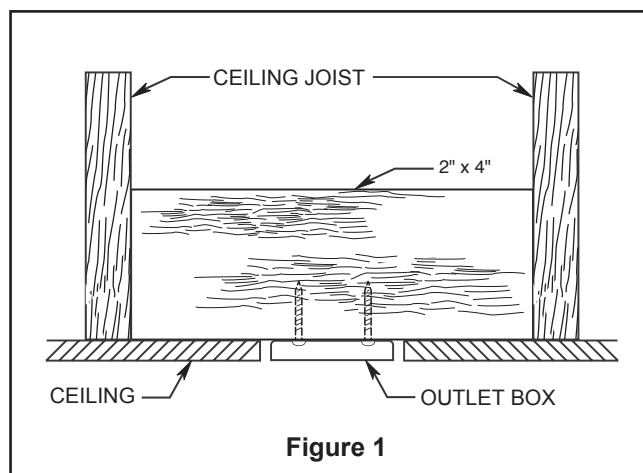
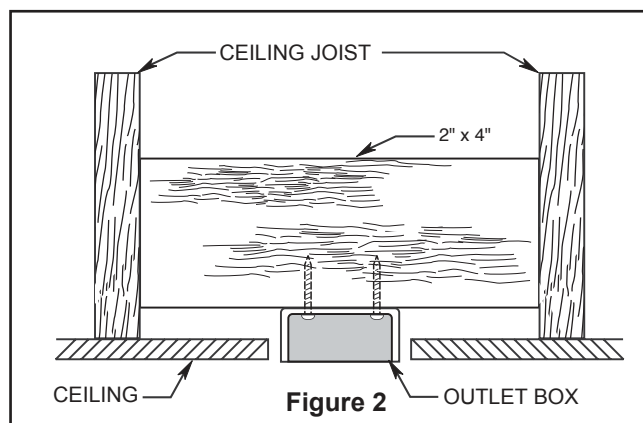

Figure 1
Figure 2
Your new ceiling fan will require a grounded electrical supply line of 120 volts AC, 60 HZ, 15 Amp Circuit. Electrical code requires use of a fan-rated outlet box to support the extra weight and motion associated with a ceiling fan. A fan-rated box will be labeled as such and typically supports up to a 70lb ceiling fan. Fan-Rated Outlet Boxes vary in ratings and design. Ensure the ratings of your ceiling fan outlet box meet the requirements for the ceiling fan being installed. Figure 1, Figure 2 and Figure 3 depicts different structural configurations that may be used for mounting the outlet box.
Low profile box (Figure 1)
Deep box (Figure 2)
- 5. Route wires through opening in canopy. Position canopy on fan shown with open side facing up. (Figure 2)
- 6. Reinstall the hanger ball (Figure 2) on the downrod as follows. Route the three 80" wires through the hanger ball. Position the pin through the two holes in the downrod and align the hanger ball so the pin is captured in the groove in the top of the hanger ball. Pull the hanger ball up tight against the pin. **Securely tighten the setscrew in the hanger ball. A loose setscrew could create fan wobble.**
1. Securely attach the hanger bracket to the outlet box using the outlet box screws and washers supplied with the outlet box. (Figure 2)
NOTE: Outlet box screws pass through slotted holes of the hanger bracket. (Figure 2)
3. Carefully lift the fan and seat the downrod/hanger ball assembly onto the hanger bracket that was just attached to the outlet box (Figure 3). Be sure the groove in the ball is lined up with tab on the hanger bracket. (Figure 2)
2. Securely attach the canopy housing to the hanger bracket using the external lockwashers and knurled knobs supplied with your fan. (Figure 2)